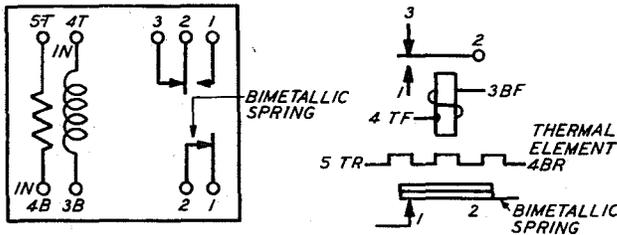

FIG.38 - WINDING AND SPRING TERMINAL ARRANGEMENT AS VIEWED FROM THE REAR (TERMINAL SIDE) - 271 TYPE RELAY
2.55 As viewed from the rear, the winding and contact terminals for this relay, shown in Fig. 38, are numbered the same as